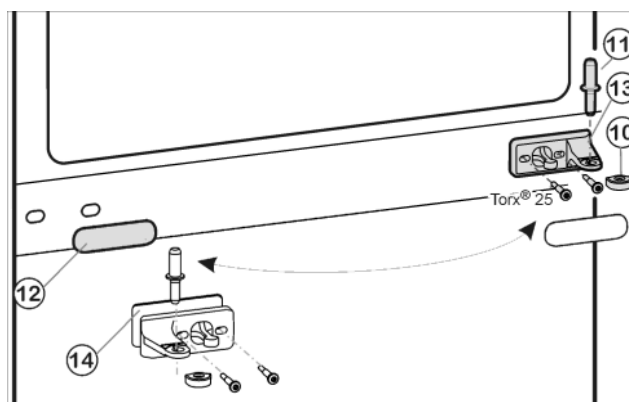
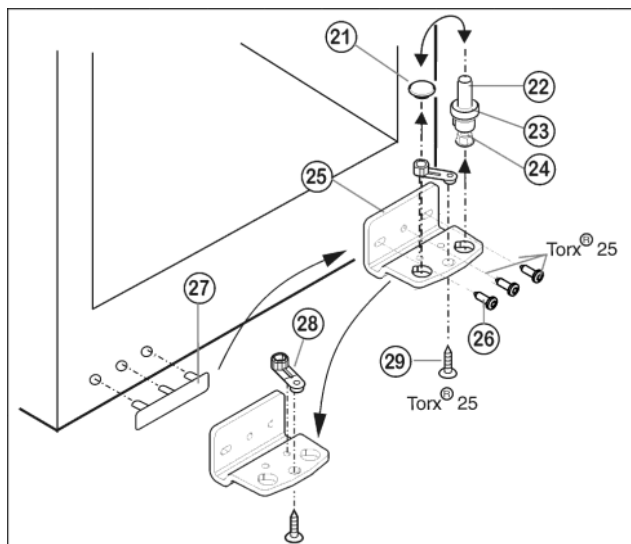

Fig. 8
Fig. 9
- ▶ Draw the middle bearing pin Fig. 8 (11) out of the turn hinge and lower door.
- ▶ Remove the plastic cap Fig. 8 (10).
- ▶ Unscrew the middle turn hinge (2x Torx® 25). Fig. 8 (13)
- ▶ Carefully detach the cover panel Fig. 8 (12).
- ▶ Turn the middle turn hinge Fig. 8 (13) with the washer Fig. 8 (14) through 180° and screw it firmly into place on the new hinge side (with 4 Nm).
- ▶ Turn the cover panel Fig. 8 (12) through 180° and snap it into place again on the new handle side.
- Lift out the bearing pin *Fig. 9 (22)* together with washer *Fig. 9 (23)* and foot *Fig. 9 (24)*.
- Lift off the stopper *Fig. 9 (21)*.
- Unscrew *Fig. 9 (26)* the turn hinge *Fig. 9 (25)*.
- Unscrew *Fig. 9 (29)* the bearing element *Fig. 9 (28)*, transfer it to the opposite location hole of the turn hinge and screw it firmly into place.
- Carefully lift off the cover on the handle side *Fig. 9 (27)* and transfer it to the opposite side.
- Screw the turn hinge *Fig. 9 (25)* firmly into place on the new hinge side, possibly using a cordless screwdriver (**with 4 Nm**).
- Re-insert the stopper *Fig. 9 (21)* into the other hole.
- Re-insert the bearing pin *Fig. 9 (22)* together with washer and foot. In so doing, pay attention that the locating lug points backwards
- Place the lower door from above onto the lower bearing pin *Fig. 9 (22)*.
- Place the plastic cap *Fig. 8 (10)* back onto the middle turn hinge *Fig. 8 (13)*.
- Place the middle bearing pin *Fig. 8 (11)* in the lower door, on the new hinge side, through the middle turn hinge *Fig. 8 (13)*.
- Place the upper door on the middle bearing pin *Fig. 8 (11)*.
- If necessary, align the doors to the appliance housing by way of the two oblong holes in the bottom turn hinge *Fig. 9 (25)* and middle turn hinge *Fig. 8 (13)*. To do so, unscrew the middle screw in the bottom turn hinge *Fig. 9 (25)*.